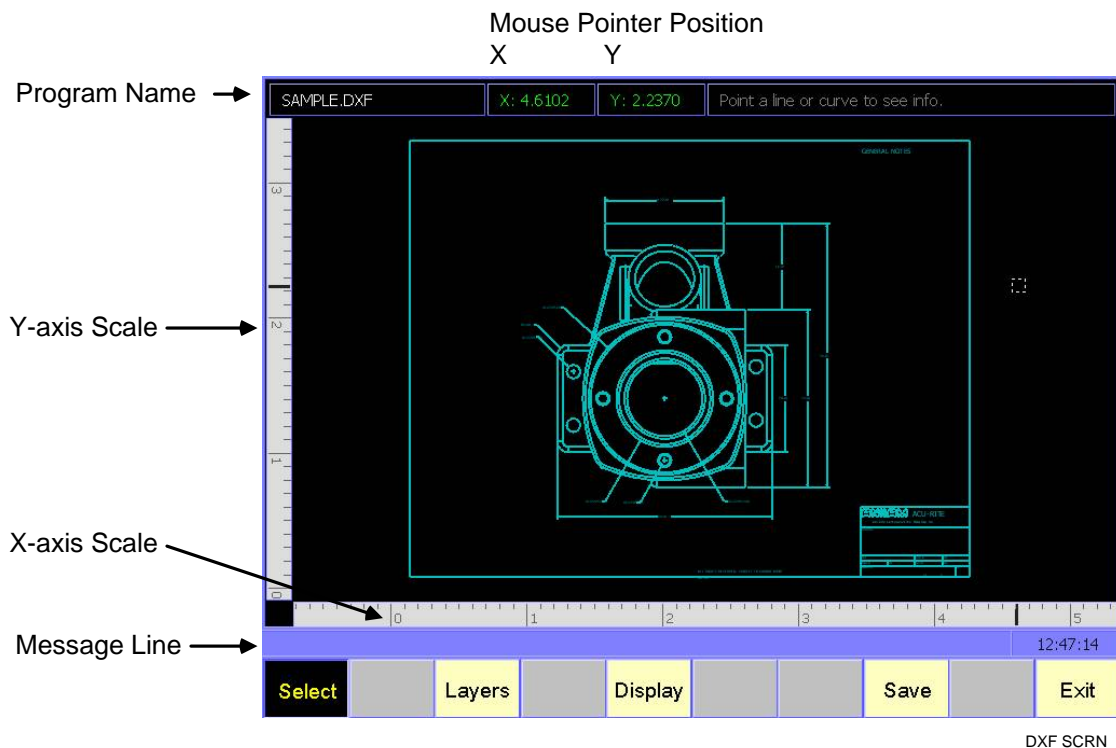

Figure 16-1, DXF Screen
3. Select the **Edit (F8)** soft key to open and bring the drawing into the DXF converter. Refer to **Figure 16-1, DXF Screen**.